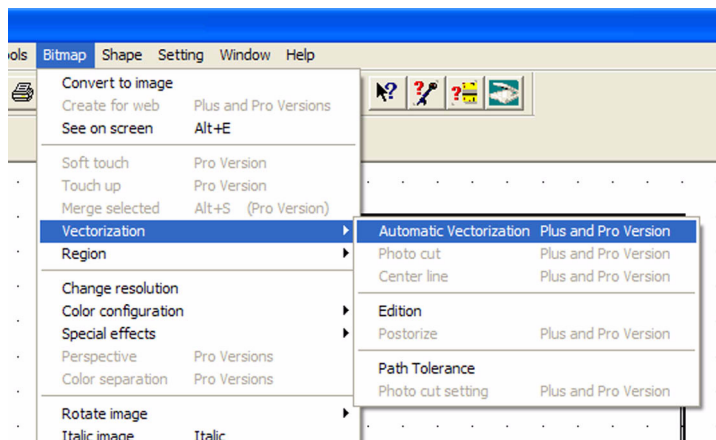

Figure 151
- 6** On the **Bitmap** menu, click **Vectorization** and **Automatic Vectorization**. See figure 151.